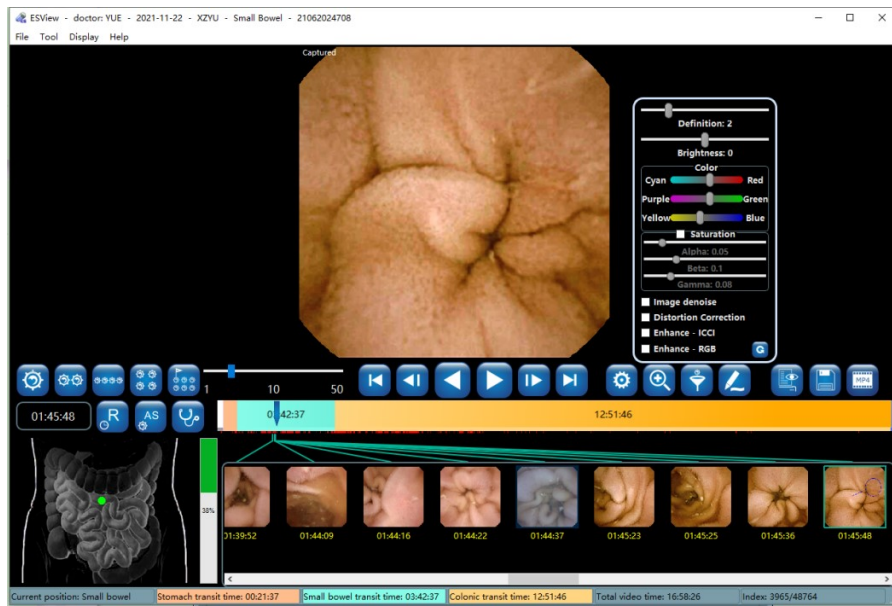

Figure 4-31: Image Processing Control Panel
1. Clicking  will bring up the image processing control panel (Figure 4-31). The user can adjust image definition, brightness, and color by using the corresponding sliders.